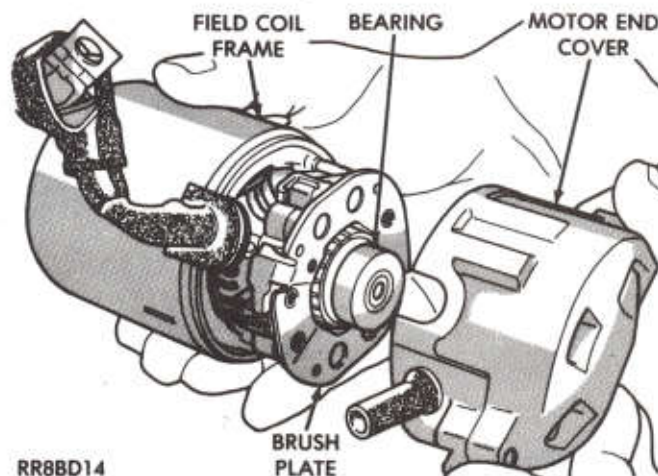

Fig. 9—Remove or Install Motor End Cover
(8) Remove the motor end cover from the commutator bearing by holding the drive end of the commutator and pulling straight out on the end cover (Fig. 9).